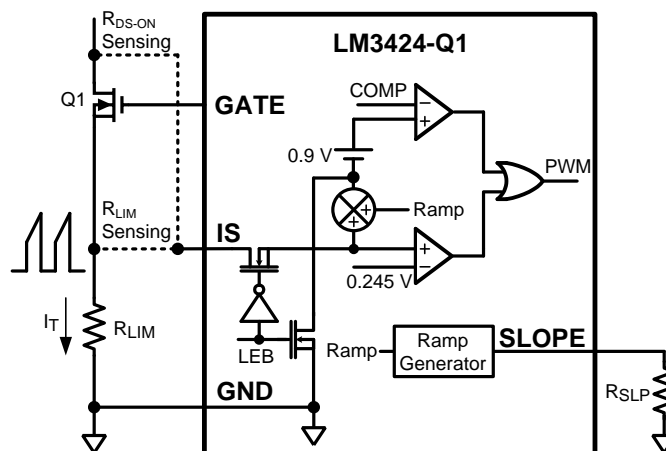

Figure 22. Current Sense / Current Limit Circuitry
The LM3424-Q1 achieves peak current mode control using a comparator that monitors the main MOSFET (Q1) transistor current, comparing it with the COMP pin voltage as shown in Figure 22. Further, it incorporates a cycle-by-cycle over-current protection function. Current limit is accomplished by a redundant internal current sense comparator. If the voltage at the current sense comparator input (IS) exceeds 245 mV (typical), the on cycle is immediately terminated. The IS input pin has an internal N-channel MOSFET which pulls it down at the conclusion of every cycle. The discharge device remains on an additional 240 ns (typical) after the beginning of a new cycle to blank the leading edge spike on the current sense signal. The leading edge blanking (LEB) determines the minimum achievable on-time (t_{ON-MIN}).